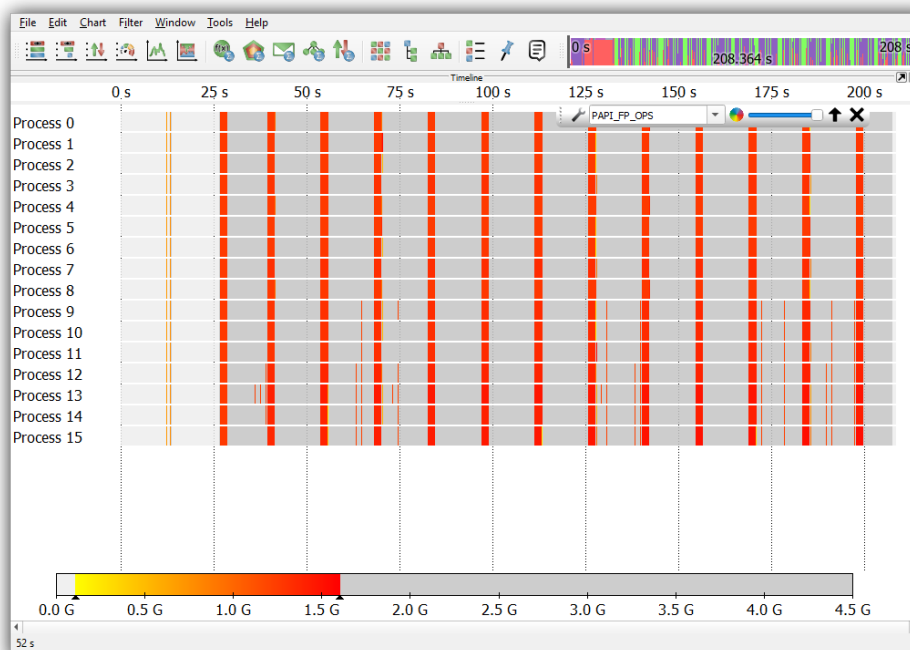
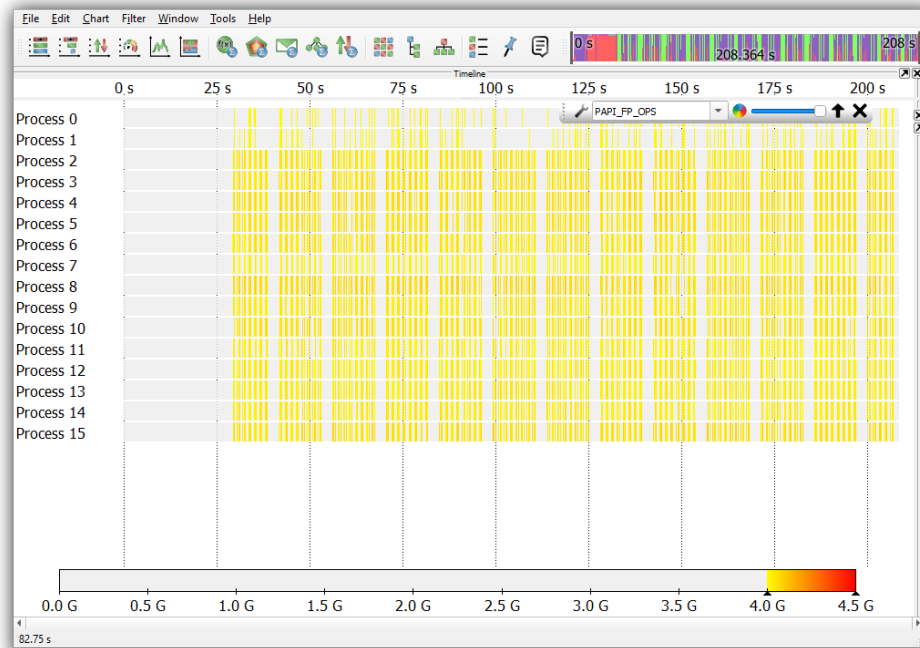

Figure 4.17: Highlighted areas with a low FLOP rate
Figure 4.18: Highlighted areas with a high FLOP rate
Figure 4.17 and Figure 4.18 depict two examples. Functions with a low FLOP rate are highlighted in Figure 4.17. The color scale is limited to a range between 100 M and
1.6 G FLOPS. The minimum value is raised to 100 M in order to gray out non-computing functions like MPI. In Figure 4.17 all areas with a low FLOP rate are highlighted in red. In this example these areas represent functions in the beginning of each iteration. Functions with a high FLOP rate are highlighted in Figure 4.18. Here the color scale is set to highlight only areas with the highest FLOP rate. These areas are represented by functions in the compute iterations.